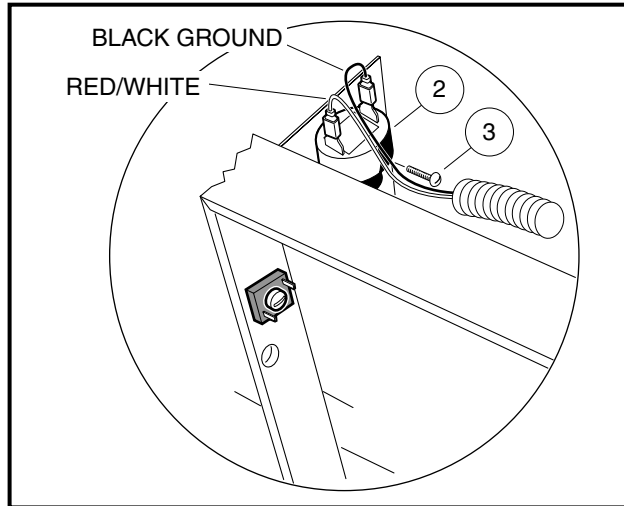

Figure 12-24 Front Reverse Warning Buzzer
5. Disconnect the wires from the reverse warning buzzer (2) (**Figure 12-24, Page 12-23**).
6. Remove the screw (3) and nut (4) securing the buzzer to the vertical frame support.
1. Install the screw (3) through the buzzer (2) bracket tab and secure with nut (4). Tighten to 14 in-lb (1.6 N·m) (**Figure 12-24, Page 12-23**).